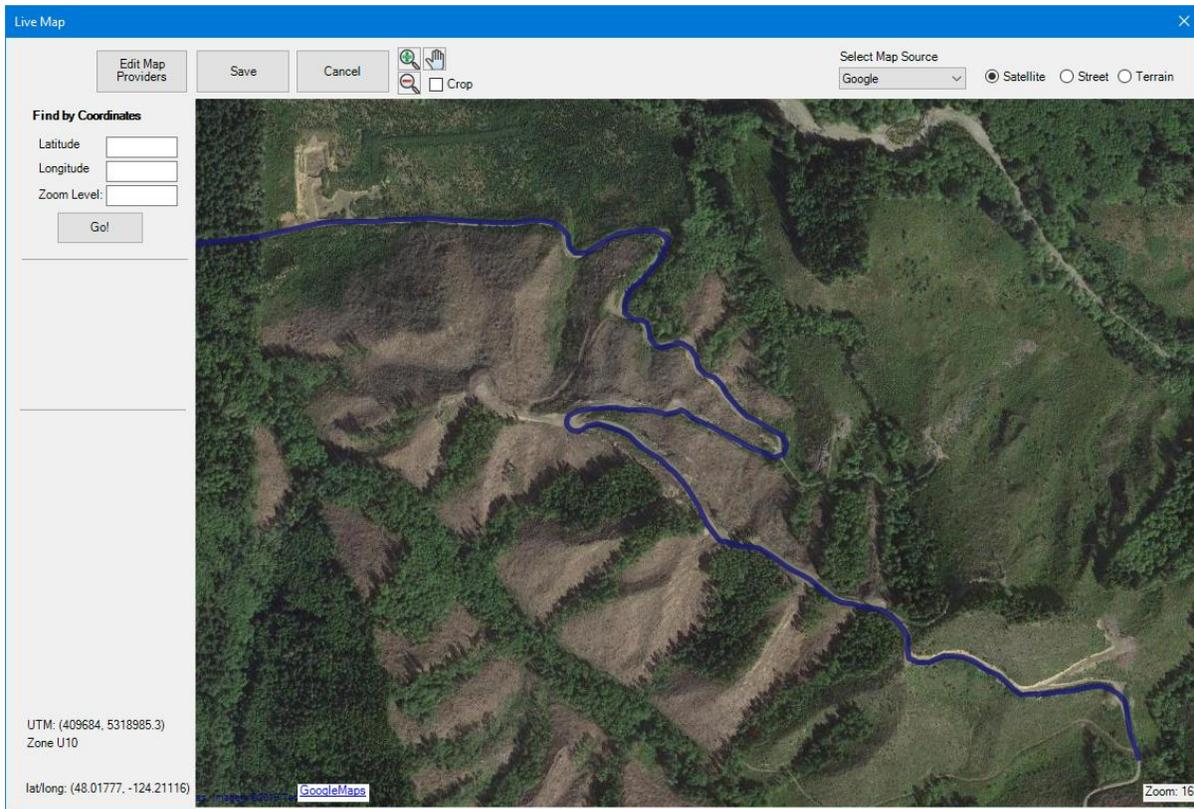

Figure 7-2: Live Map dialogue box.
7. Press the import  icon in the *Web Mapping* section of the *home* ribbon to open the *Live Map* dialogue box. The *Live Map Dialogue* box should appear similar to the one in Figure 7-2 below.
18. Press the import  icon in the *Web Mapping* section of the home ribbon to open the *Live Map* dialogue box. The *Live Map* dialogue box should appear similar to the one in Figure 7-2 above.